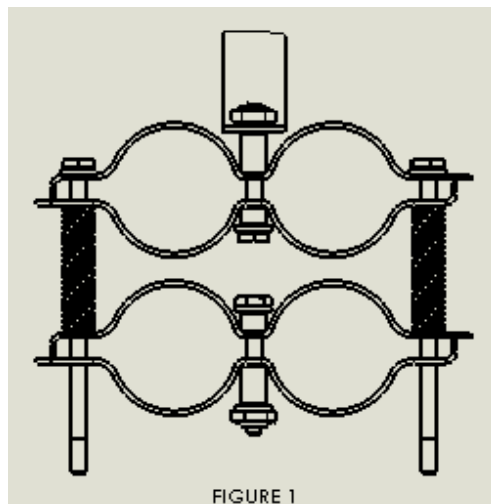

FIGURE 1
4. LOOSELY ASSEMBLE FOUR (4) SC57261-001 WITH FASTENERS, SC57262-001, SC57262-003, SC57263-001, SC57263-003, AND SC57264-00, AS SHOWN IN PHOTO 1 AND ATTACHED DRAWING SC57260.
5. OMIT (2) HDW-D-1202 SPRINGS, (2) AN363-1032, AND (2) AN960-10 AS SHOWN IN FIGURE 1.
7. COMPRESS CLAMPS USING CHANNEL LOCKS OR VICE GRIPS AND INSTALL HDW-D-1202 SPRINGS (2), AN363-1032 (2), AND AN960-10 (2).